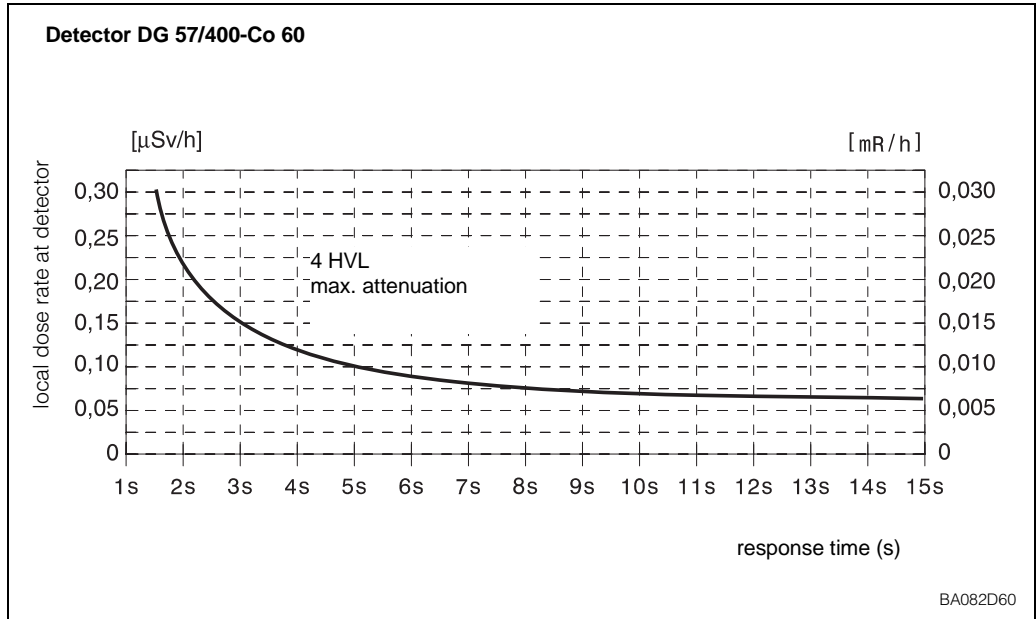

Fig. 5.7:
- For the DG 17/27 detector, the local dose rate determines the minimum response time of the relay, see Fig. 5.7...5.10. The integration time acts as a prolongation factor, which increases the response time 1...6 fold. Read the minimum response time τ from Fig. 5.7...5.10, then determine the maximum relay response time your process will tolerate τ_{max} .